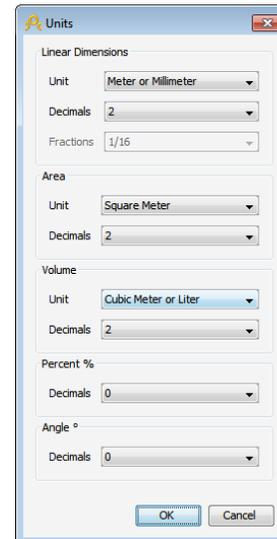

Figure 6 Selection of Units
- Units setting, you may also want to set the **Units** to be used by the SMC user interface. You may change these units any time during your session. Please note that some rules require recalculation in order to update the rule results to use new Unit settings (see Figure 6)